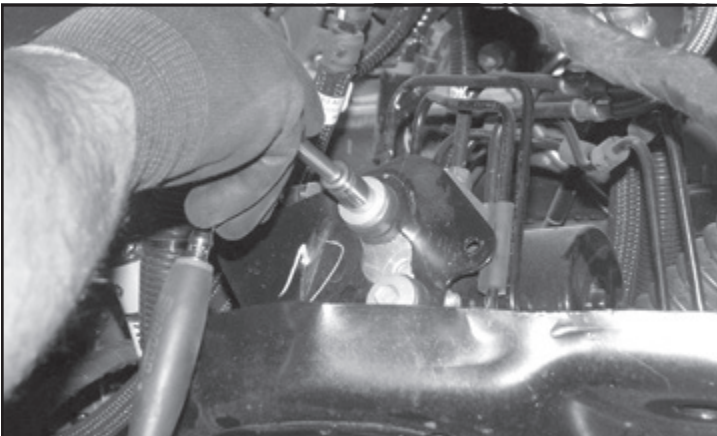

FIGURE 2 - STEP 7
7. **DRIVER SIDE ONLY** - Remove the bolts that attach the module to the mounting bracket on the top of the bucket. Retain hardware. **SEE FIGURE 2**